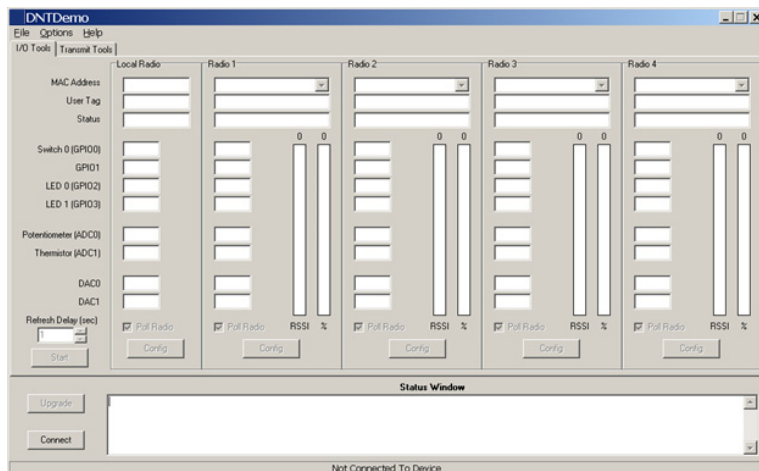

Figure 4
4. Start the Demo on the PC. The Demo program start-up window is shown in Figure 4.